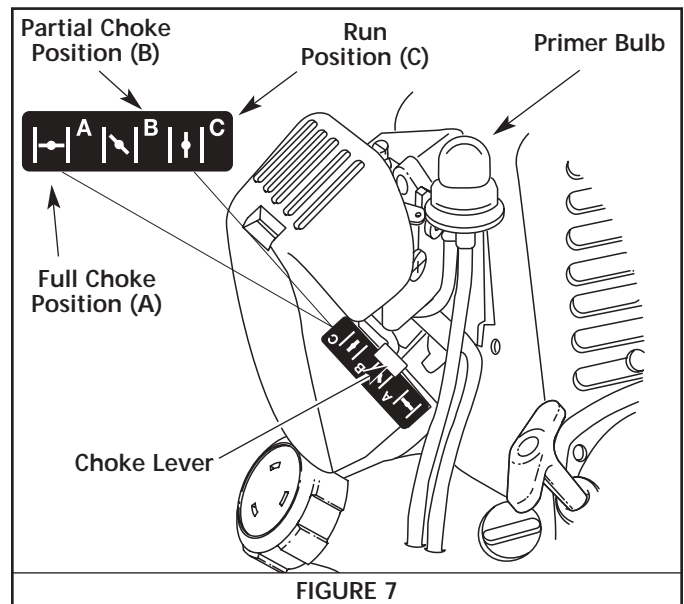

FIGURE 7
4. Place the choke lever in the **FULL** choke (A) |←| position. See Figure 7.
5. Fully press and release the primer bulb 5 to 7 times, slowly, until **FUEL IS VISIBLE IN THE PRIMER BULB**. If you can't see fuel in the bulb, press and release the bulb three (3) additional times, or as many times as it takes before you can see fuel in it. See Figure 7.
8. Move the choke lever to the **PARTIAL** (B) |↘| position. See Figure 7.
2. Move the choke lever to the **PARTIAL (B)** |↘| position. See Figure 7.